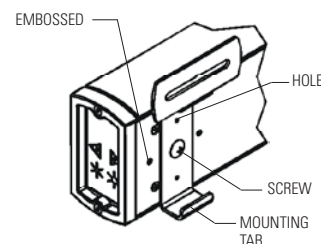

FIG.10
3. Loosen screw from the mounting tabs. (Fig.10 & 11)
5. Locate embossed holes and screw in place. (Fig.10 & 11)
1. Position mounting tabs towards front of the luminaire (for stable floor standing), or at each end. (Fig.10 & 11)
2. Loosen screw from the mounting tabs. (Fig.10 & 11)
4. Locate embossed holes and screw in place. (Fig.10 & 11)